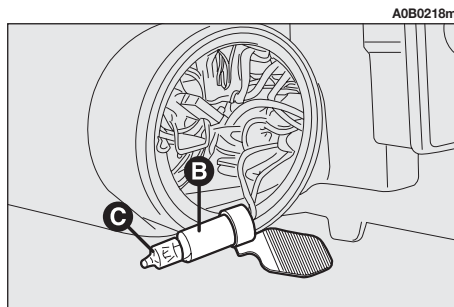

fig. 36
- Remove the bulb (**C**-fig. 36) from the bulb holder, pushing lightly and turning counter-clockwise.
- Replace the bulb and refit the bulb holder (**B**-fig. 36) in its housing.